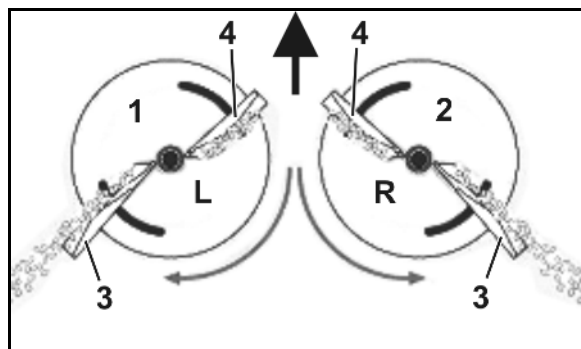

Fig. 27
4. Place the hydraulic hose lines in the hose cabinet (Fig. 27).